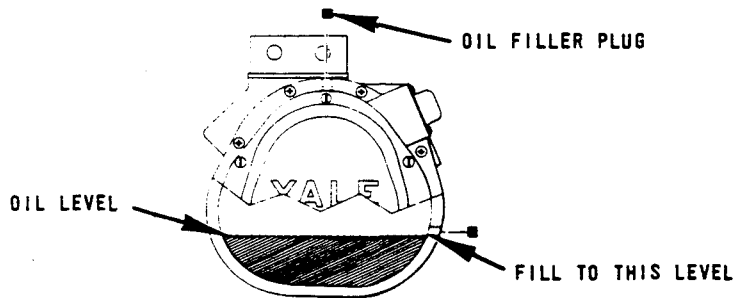

FIGURE 4.
- (b) After suspending the hoist check the gear case to be sure oil has been added. If not, fill the gear case to the level of the filler plug with YALE[®] gear oil part number 0106091-00 or equivalent. See Figure 4.